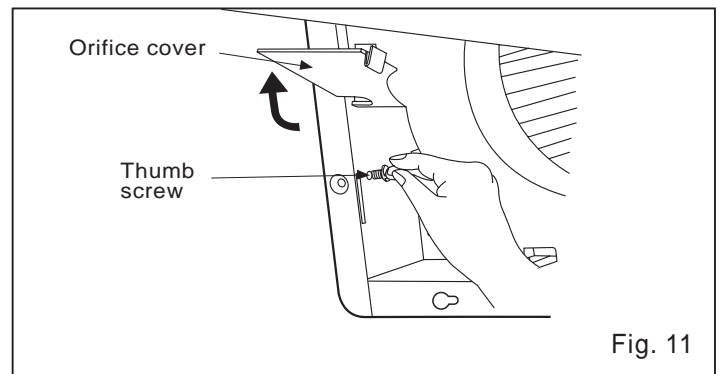

Fig. 11
6. Open the orifice cover, secure the fan body to adaptor by using thumb screw. (Fig.11)
5. Secure the adaptor and fan body by using thumb screw. (Fig.11)